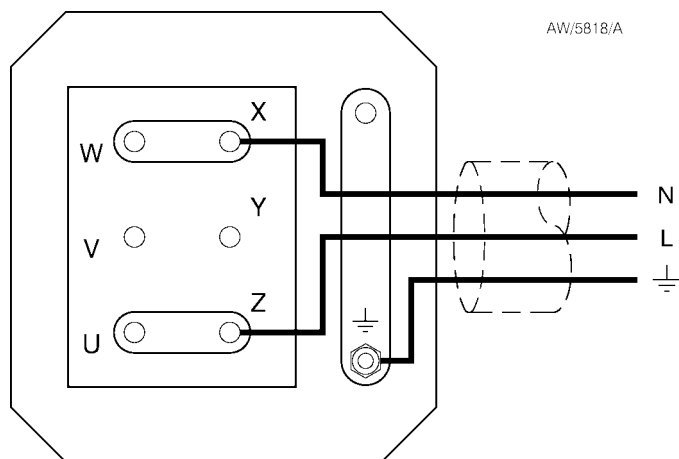
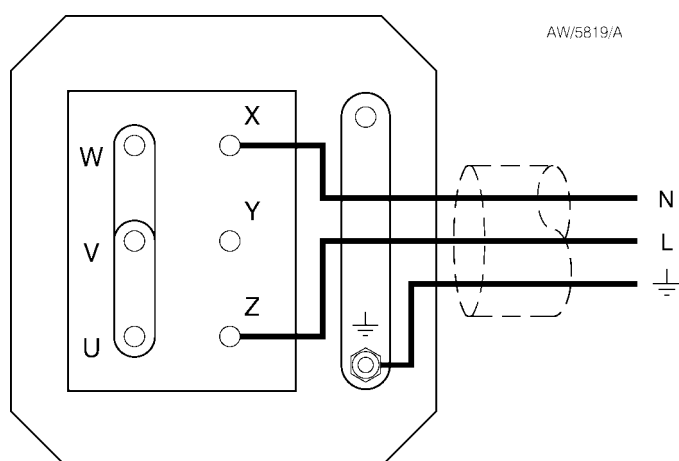

Figure 7 - Motor terminal-box low-voltage configuration: 1-phase pumps
Figure 8 - Motor terminal-box high-voltage configuration: 1-phase pumps
2. Check your electrical supply voltage and frequency. The universal motor of the pump can be configured for 'low-voltage' operation (100-115 V) as shown in Figure 7, or for 'high-voltage' operation (200-230 V), as shown in Figure 8. If necessary, reconfigure the motor to operate with your supply voltage.
5. Connect the neutral and live wires in the cable (N, L) to the X and Z terminals as shown in Figures 7 or 8, depending on your electrical supply voltage, then connect the earth (ground) wire in the cable to the earth (ground) stud in the terminal-box.